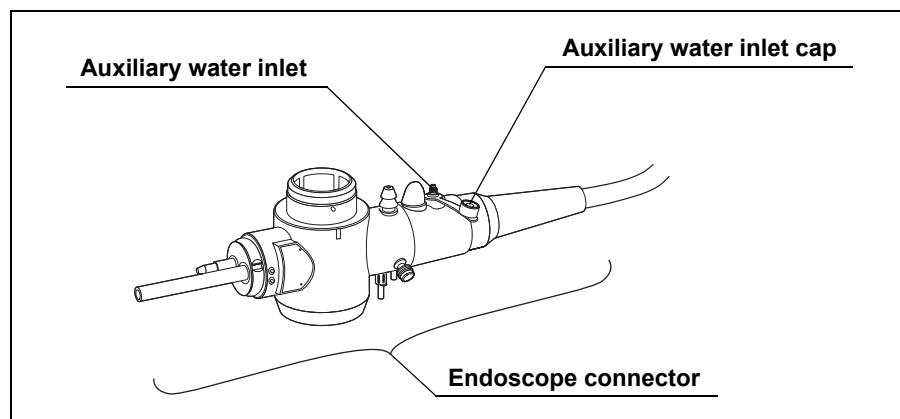

Figure 3.13
1. Confirm that the auxiliary water inlet cap attached to the endoscope connector has no dents, cracks, or other irregularities (see Figure 3.13).